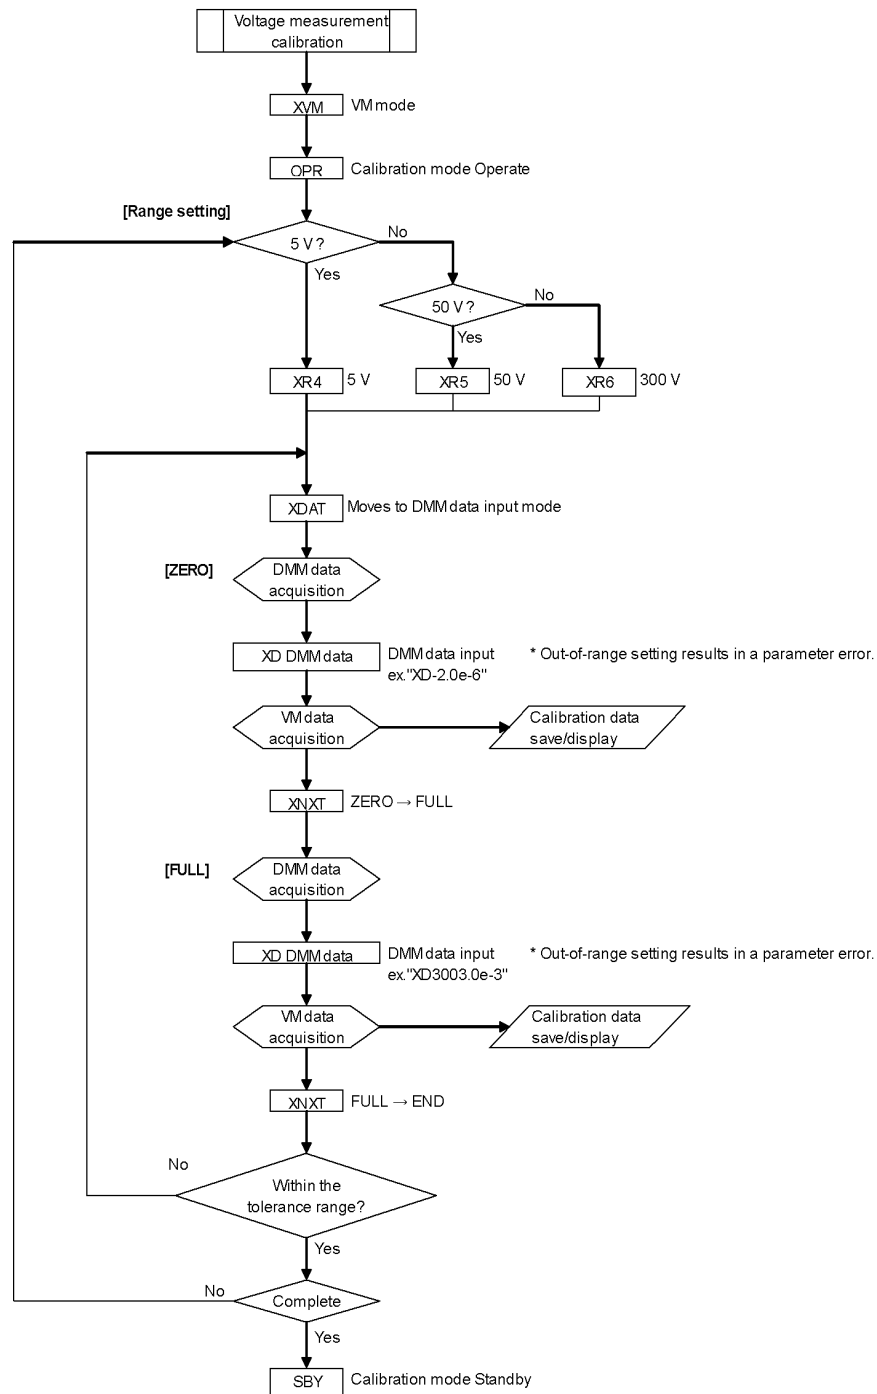

Figure 8-7 Calibration Procedure (3)
The procedure of voltage measurement calibration is described according to Figure 8-7 Calibration Procedure (3).